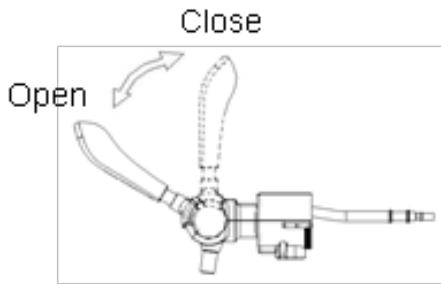

FIGURE 12
14.4 When the faucet handle is closed in the vertical state (as shown in the "CLOSE" position in Figure 12), pull the handle forward 45 degrees to press out the beer (as shown in the "OPEN" position in Figure 12).